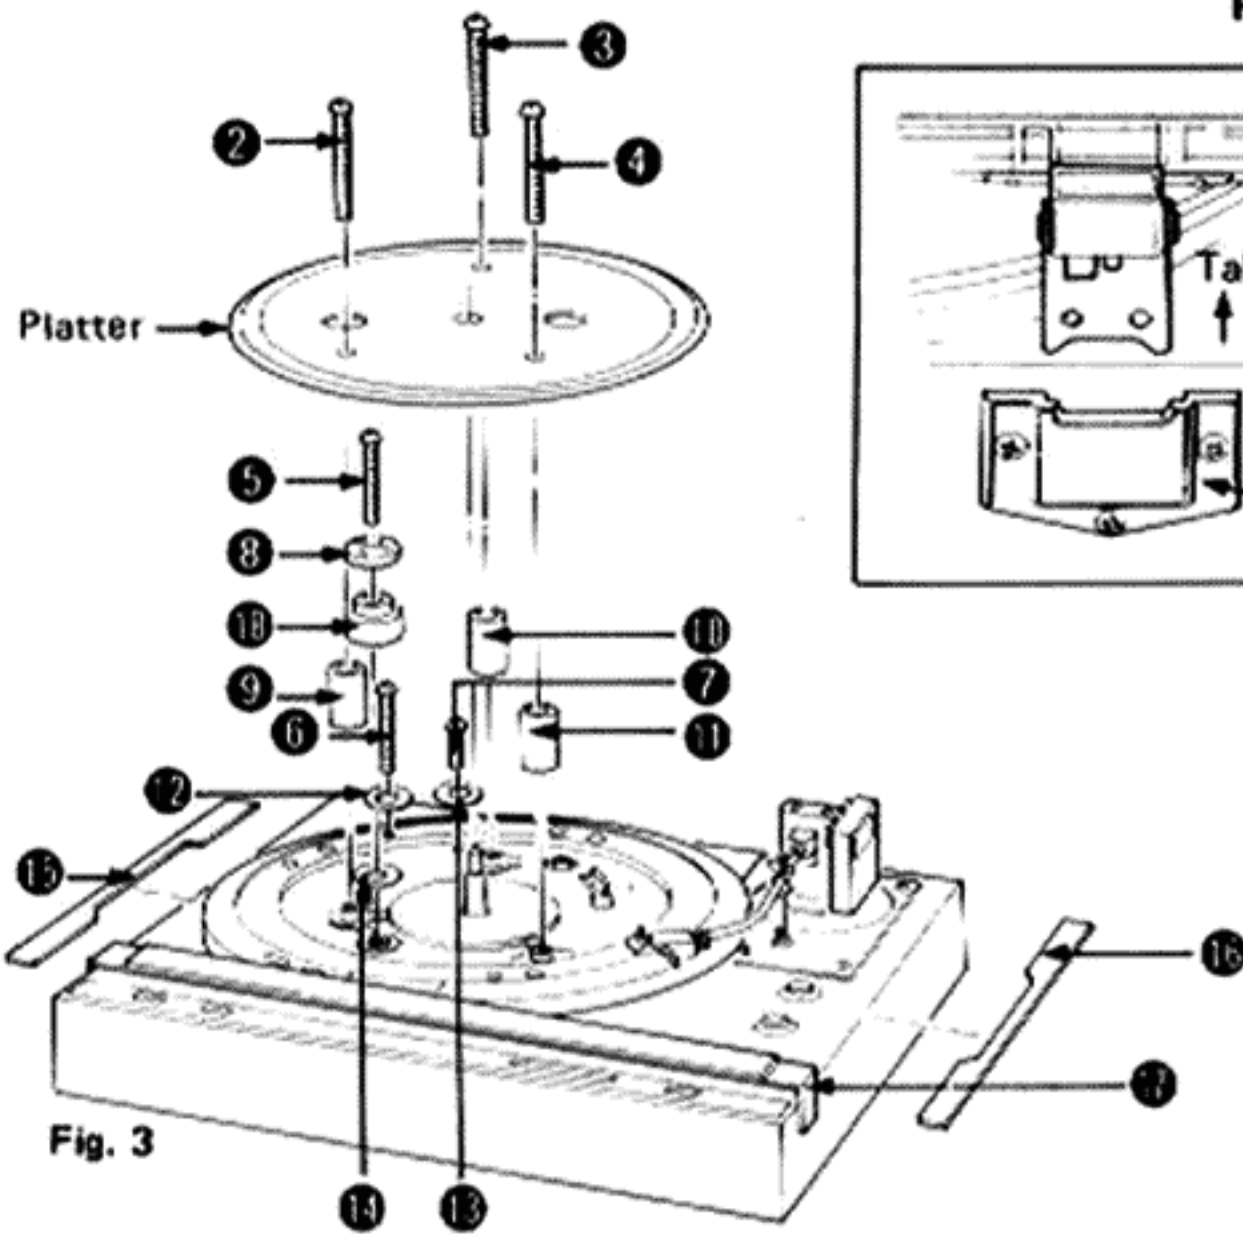

Fig. 3
3. Take off shipping corners ( ❸ - ❹ ) and others ( ❺ - ❻ ). (Fig. 3)